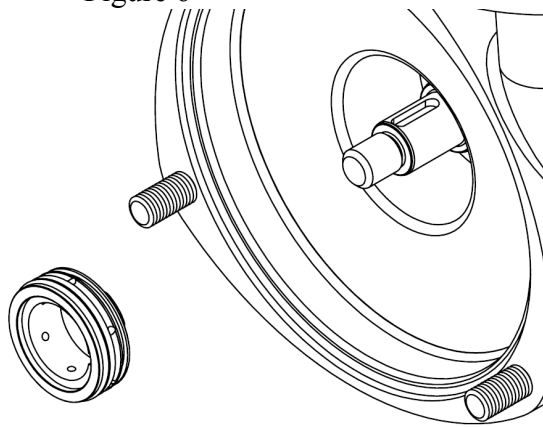

Figure 7
9. Remove stationary seal once pushed out of its' bore. See figure 7. Check the condition of the casing, rotating seal and stationary seal. Clean and remove any foreign matter before reinstalling the seal.